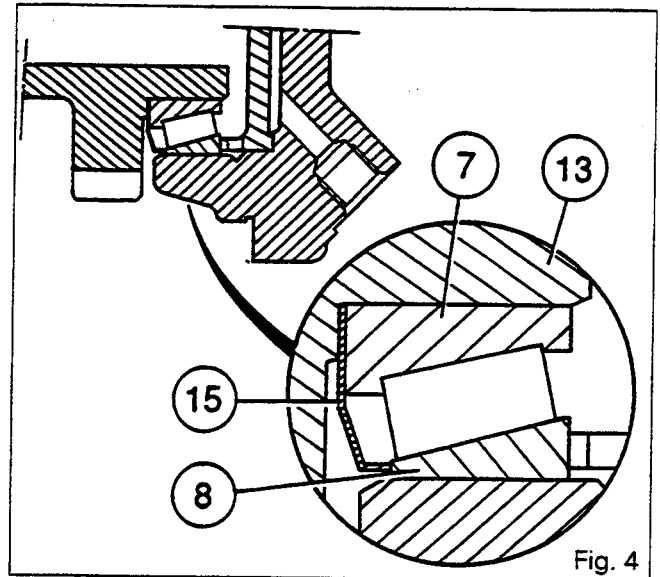

Fig. 4
25. Withdraw the pinion (13) and shaft (2) assembly held by the washer (5) and bolt /6\.
- Note : The shaft (2) is mounted in the clutch (1) without locking screw.**
26. Remove the screw /6\ and the washer (5).
27. Separate the pinion (13) from the shaft (2).
- Note : A deflector (15) is mounted between the pinion (13) and the bearing cone (7), in contact with the cup (8) (Fig.4).**